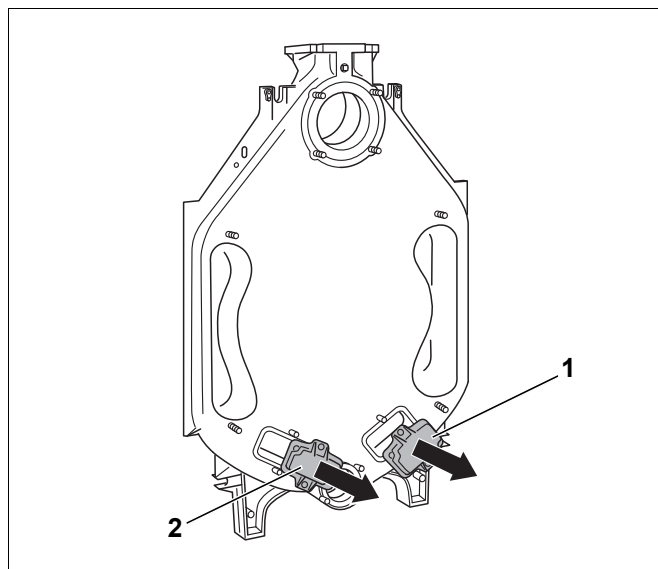

Fig. 10 Remove the clean-out covers
- Remove the clean-out covers on the rear section (Fig. 10, [1] and [2]).